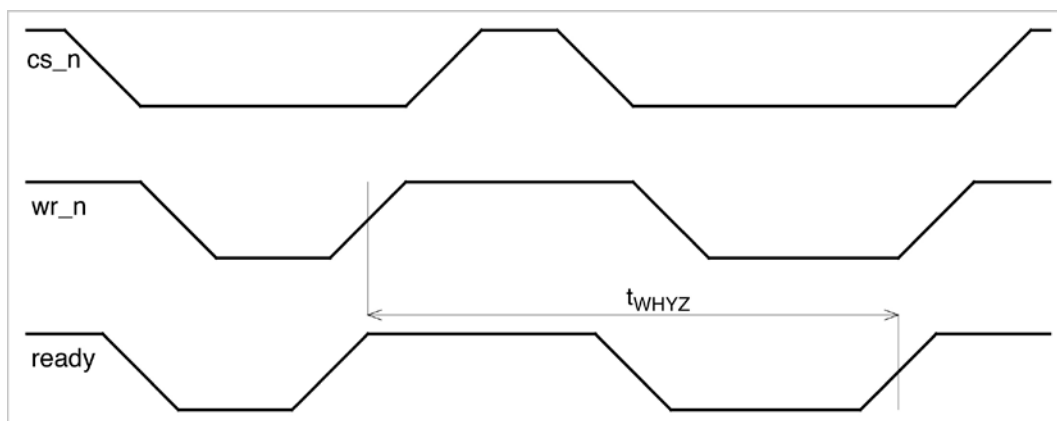

Figure 10. Mode 0 and Mode 1: Ready Timing for Write Cycle with Write Active
- Mode 0 and Mode 1: Ready Timing for Write Cycle with Write Pending (Table 10 and 11/Figure 10)